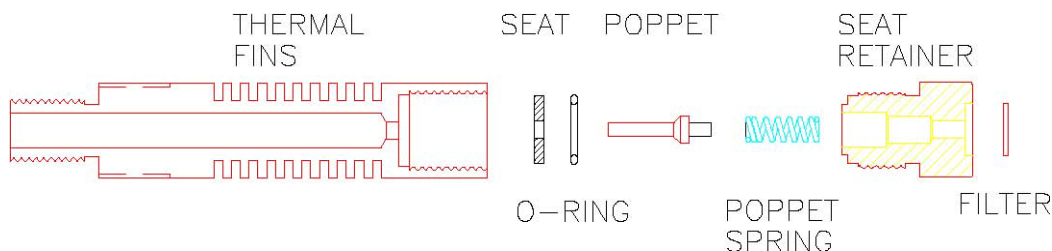

FIGURE 5
- 3.2.12 Remove the poppet spring #17 and poppet #14 (see Figure 5).